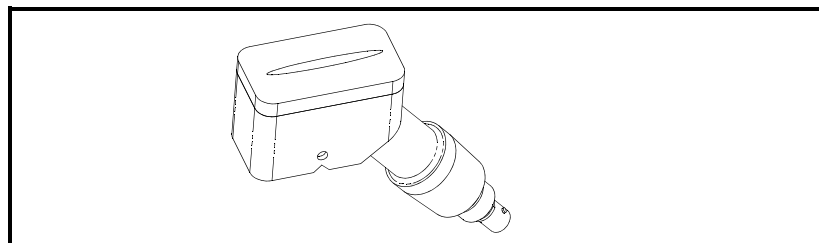

Figure 1-24: Applying Couplant to Transducer
3. Take one of the transducers and apply a thin bead of couplant down the center of its face approximately the size of a toothpaste bead (Figure 1-24 below).